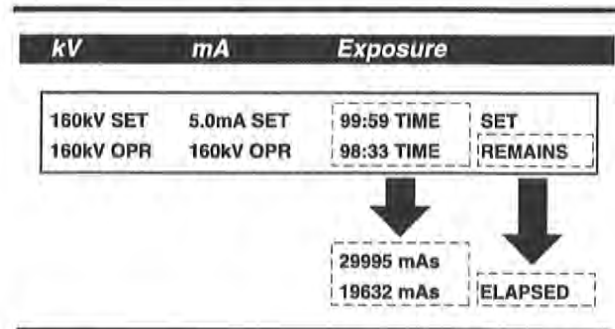

FIGURE 4-1:
4.3.1 The Top LCD (Figure 4-1)